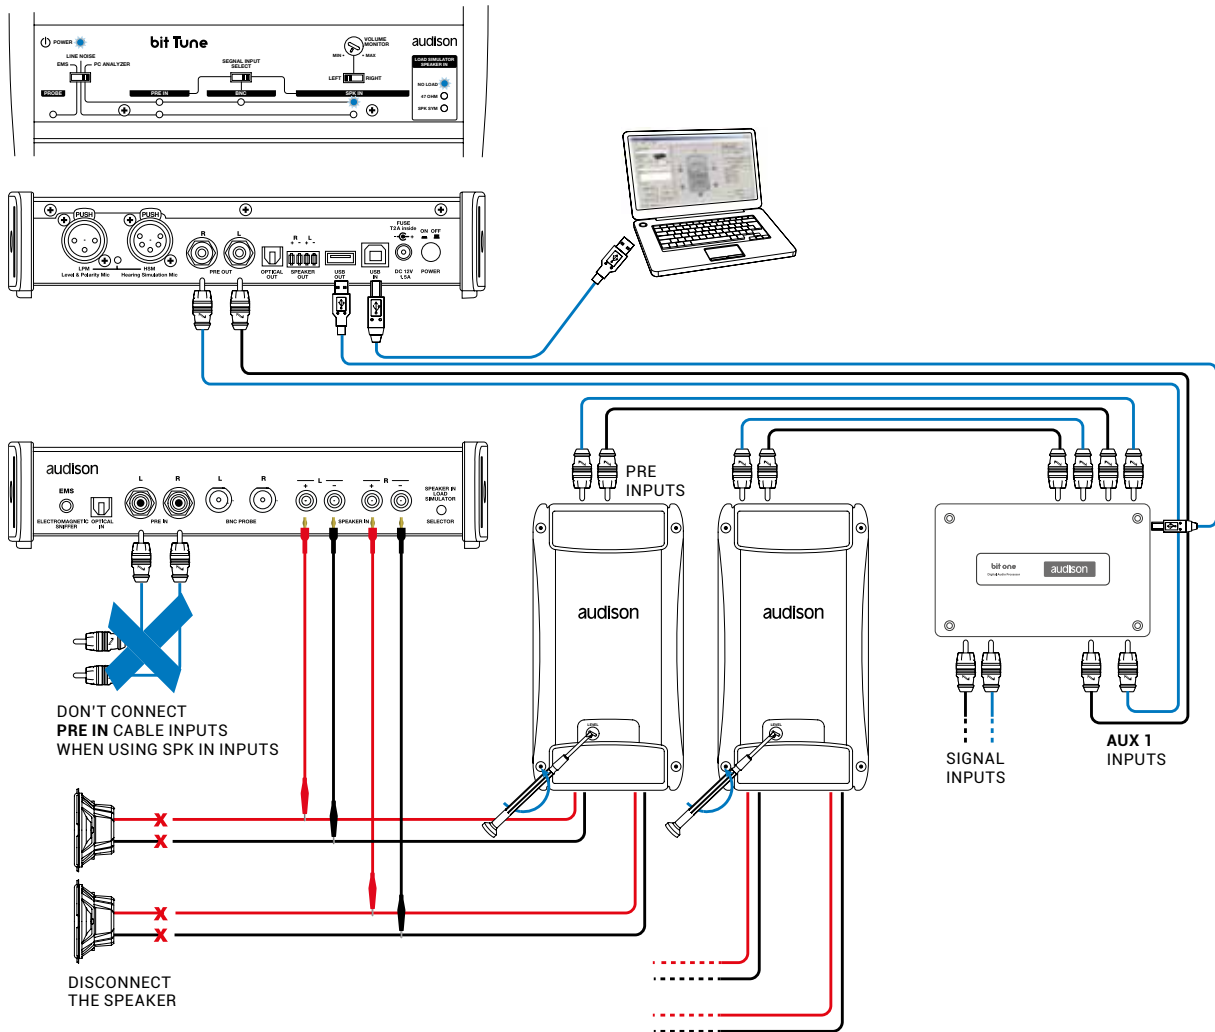

Fig 1
1. Connect the bit Tune to the Audison bit processor, as shown in fig. 1 or 2 (see points A and B).